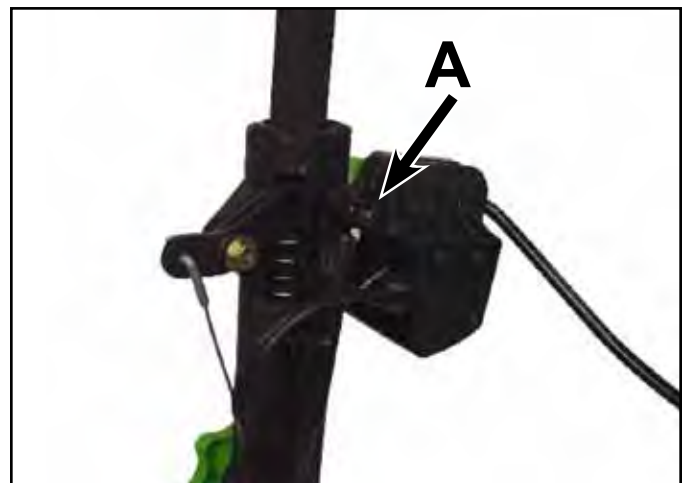

Fig 286
2. Remove the e-clip on the left side pivot pin (Fig. 286).